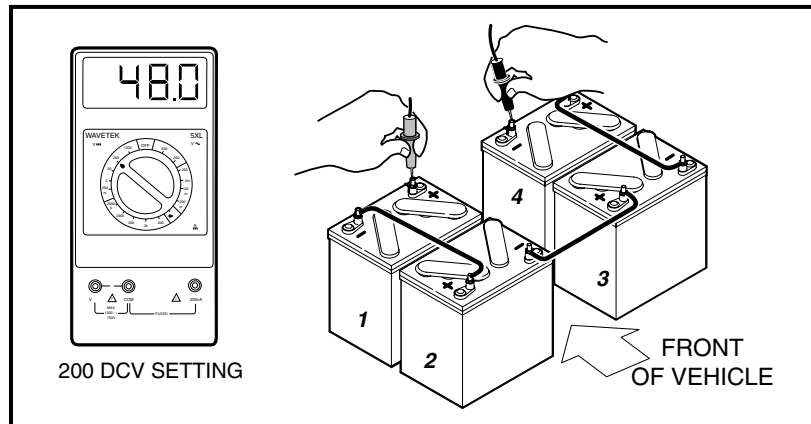

Figure 11-8 Battery Test
1. With batteries connected and using a multimeter set to 200 volts DC, place red (+) probe on the positive (+) post of battery no. 1 and the black (–) probe on the negative (–) post of battery no. 4 (**Figure 11-8, Page 11-19**). The multimeter should indicate at least 48 volts with the batteries fully charged. If not, check for loose battery connections or a battery installed in reverse polarity. Refer to Section 13 – Batteries, for further details on battery testing.